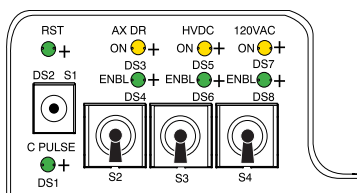

Figure A-3 STC Power Switches
**CAUTION** Before you remove top covers, always make sure the three (3) power switches have been turned off. (See Figure A-3.)
- 2.) Remove gantry side and top covers, if you have not already done so. See Section 1.0 on page 119. Make sure that the three (3) power switches have been turned off. See Figure A-3.